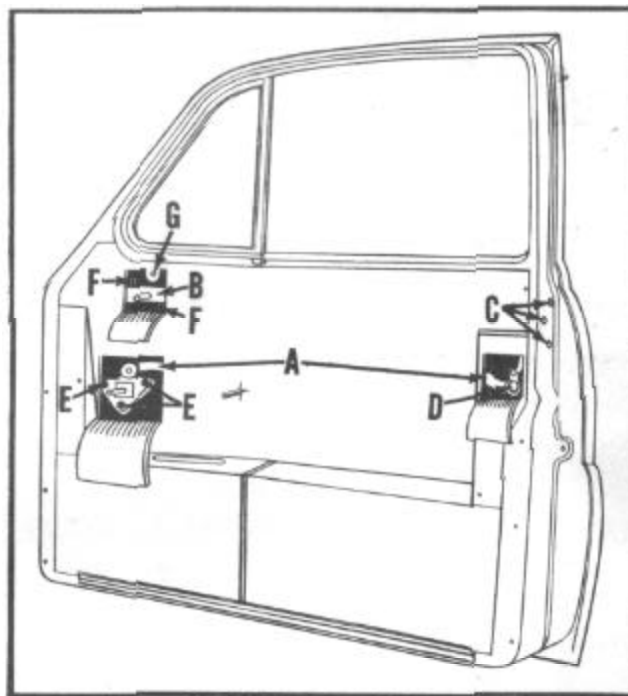
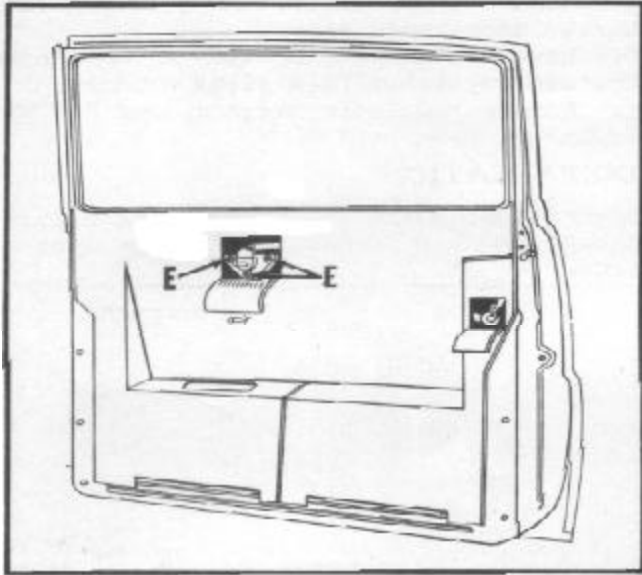

FIGURE 30
FIGURE 31
4. Cut door inner liner at (A), Figure 30, front door; or Figure 31, rear door, and disconnect remote control arm from lock at D.
6. Remove three large Phillips head screws (C) from edge of door and remove lock assembly down and out through lower opening in door inner panel.
2. Cut door inner liner as shown at A, Figure 30, for front door or Figure 31, for rear door.
3. Remove three Phillips head screws (E) from triangular bracket at handle end of remote control arm.
4. Remove anti-rattle spring and pin (D) from lock end of remote control and withdraw remote control toward the hinge side of the door.
2. Cut door inner liner at B in Figure 30.
4. Remove two screws (F) attaching regulator to door inner panel and remove regulator down and out through opening
4. Cut hole in door inner liner as shown at B in Figure 30 to expose clevis (G) connecting wing to regulator and remove screw from clevis.